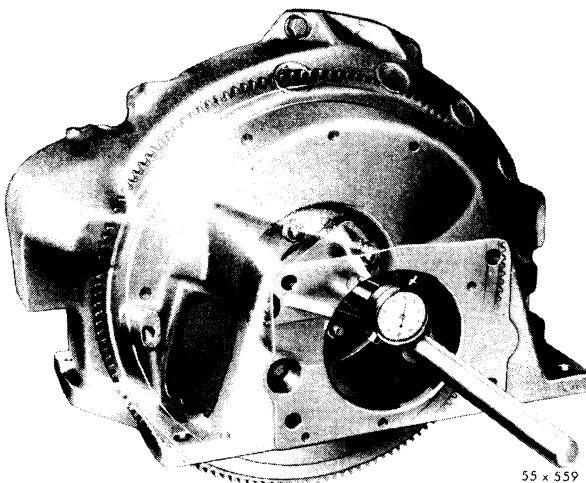

Fig. 12—Typical Method of Attaching Fixture C-870 and Checking Clutch Housing Bore
- (1) Inspect the housing face where it contacts the cylinder block, for particles of dirt or burrs. Remove burrs with a file and clean both surfaces thoroughly. Install clutch housing. Tighten clutch housing to block bolts just snug enough so the housing can be shifted if necessary by tapping with a mallet.
- (2) Install the fixture, Tool C-870 to the flywheel attaching bolts, as shown in Figure 12. Install the indicator, Tool C-435 or C-430, as shown in Figure 12. Rotate the crankshaft and check the inside diameter of the housing bore; it should not vary more than .005 inch in one complete revolution of the crankshaft. If alignment is necessary, remove the dowel pins and tap the housing until it comes within the specified tolerance. After obtaining correct alignment, tighten the housing bolts 30 to 35 foot-pounds torque.